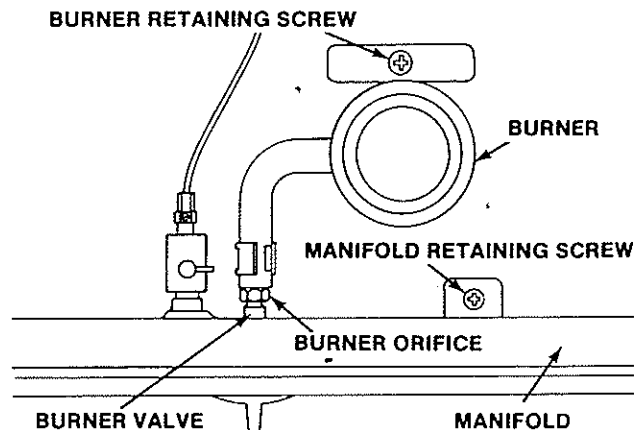

Figure 4
- remove burner retaining screw (Figure 4).